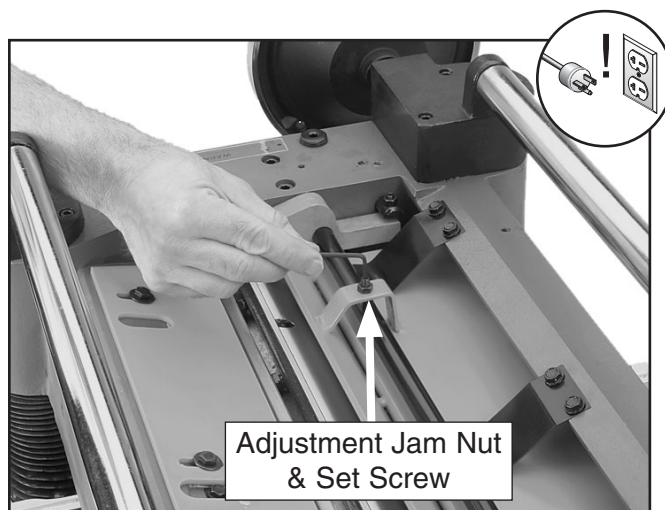

Figure 65. Example of adjusting the chip breaker height.
12. Using same "0" reference on Rotacator dial from **Step 5**, perform similar steps as described above to adjust height of chip breaker to its recommended specification given at beginning of this subsection. The adjustment controls are shown in **Figure 65**.